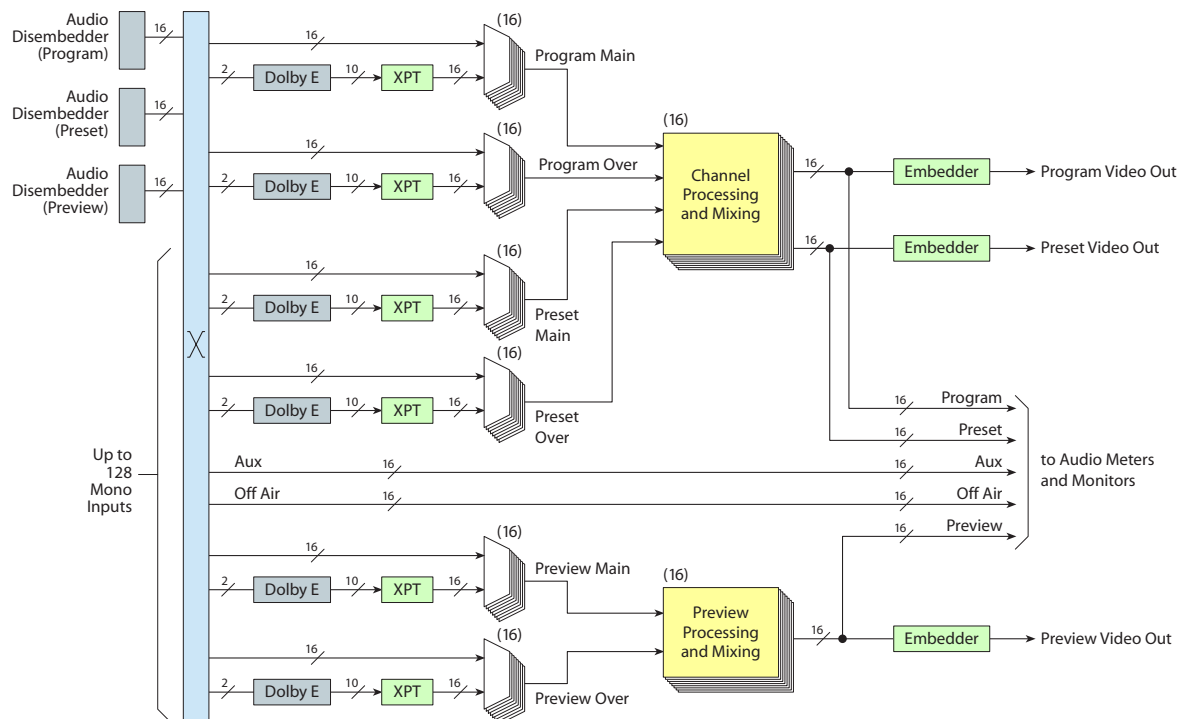

Fig. 5-1: Audio Processing Section (without Dual Dolby)
- The default. (Refer to Figure 5-1.)
The audio crosspoint accepts discrete audio inputs directly and accepts embedded audio after it passes through a disembedder. Each disembedder produces 16 channels (8 AES pairs) as shown in Figure 5-1.
The MCE also accepts up to 16 discrete or embedded audio over inputs for program, preset, and preview. Figure 5-1 shows the schema for MCEs without dual Dolby decoders: